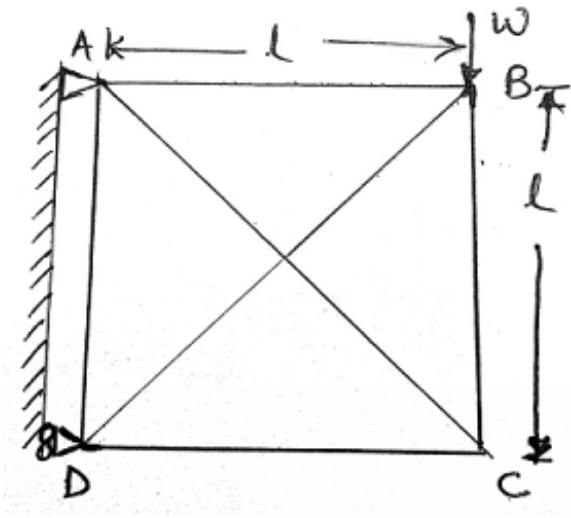

Fig.2
- Q.3 Find the forces in the members of frame shown in fig.2 . All members have same cross-sectional 15 area & are of the same material.